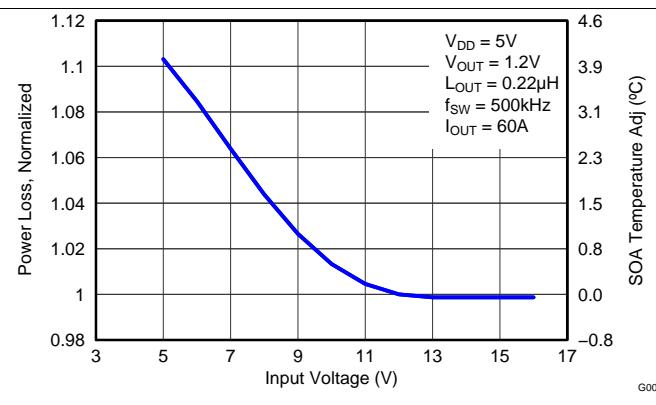

Figure 6. Normalized Power Loss vs Input Voltage
- Normalized Power Loss for input voltage \approx 1.06 (Figure 6)
- SOA adjustment for input voltage \approx 2.4°C (Figure 6)